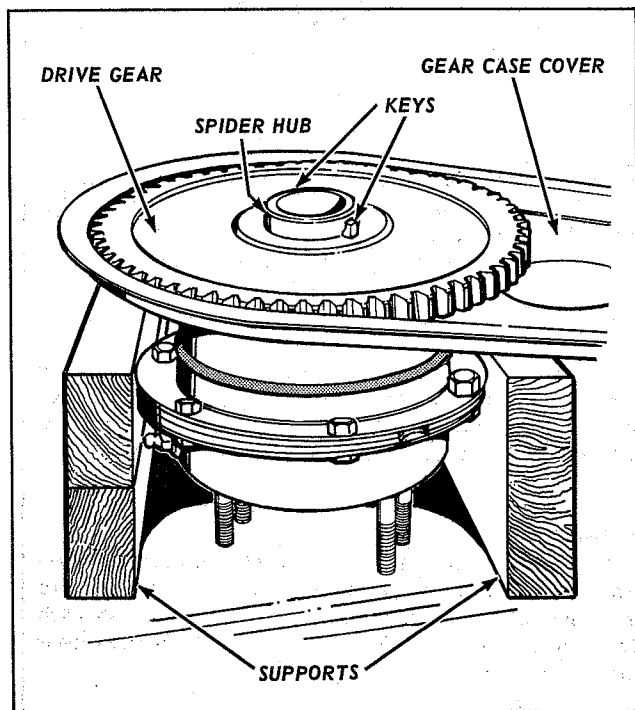

Figure 6
6. To remove the drive gear, place supports under the gear case cover as shown in Figure 6 and sharply rap the end of spider assembly hub with a raw-hide mallet. The drive gear is keyed to the spider hub with 2 keys which are removed after gear is free of hub.